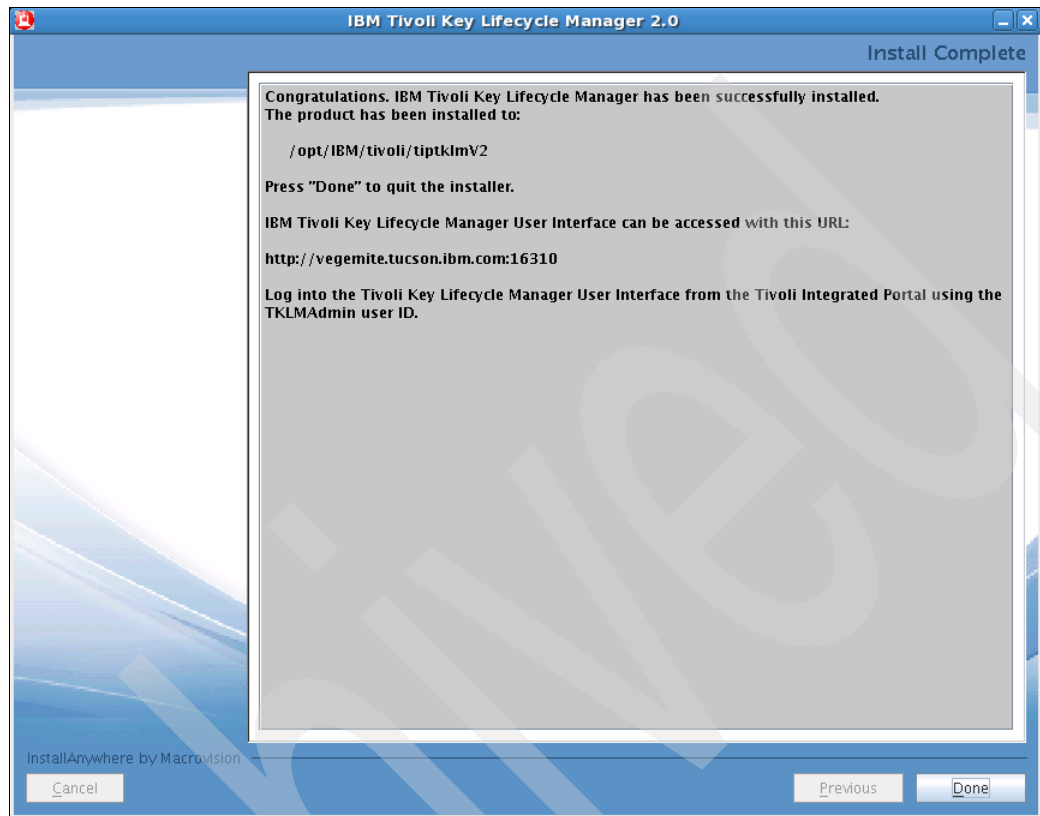
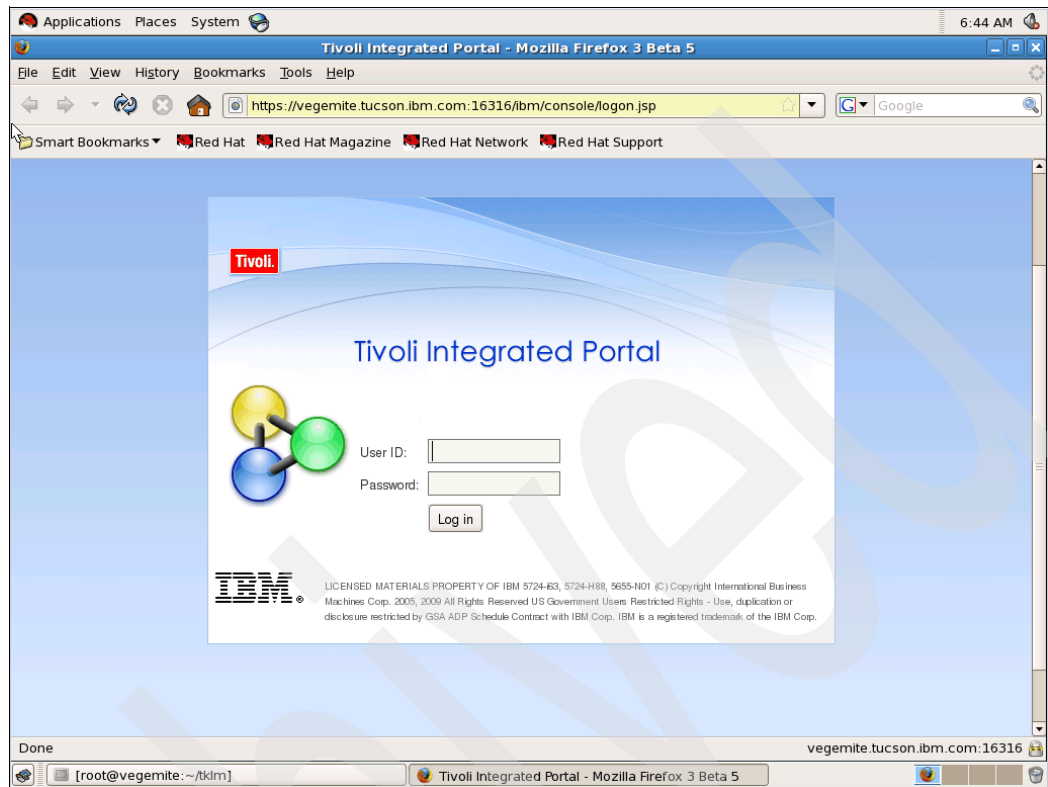

Figure 7-20 TKLM\_v2\_inst\_done
Figure 7-21 TKLM v2 login screen
23. When installation is complete a success message is displayed (Figure 7-20). This screen also indicates how to access TKLM v2 using a browser. Click **Done** to quit the installer. This redirects you to the Tivoli Integrated Portal Login screen (Figure 7-21 on page 139).